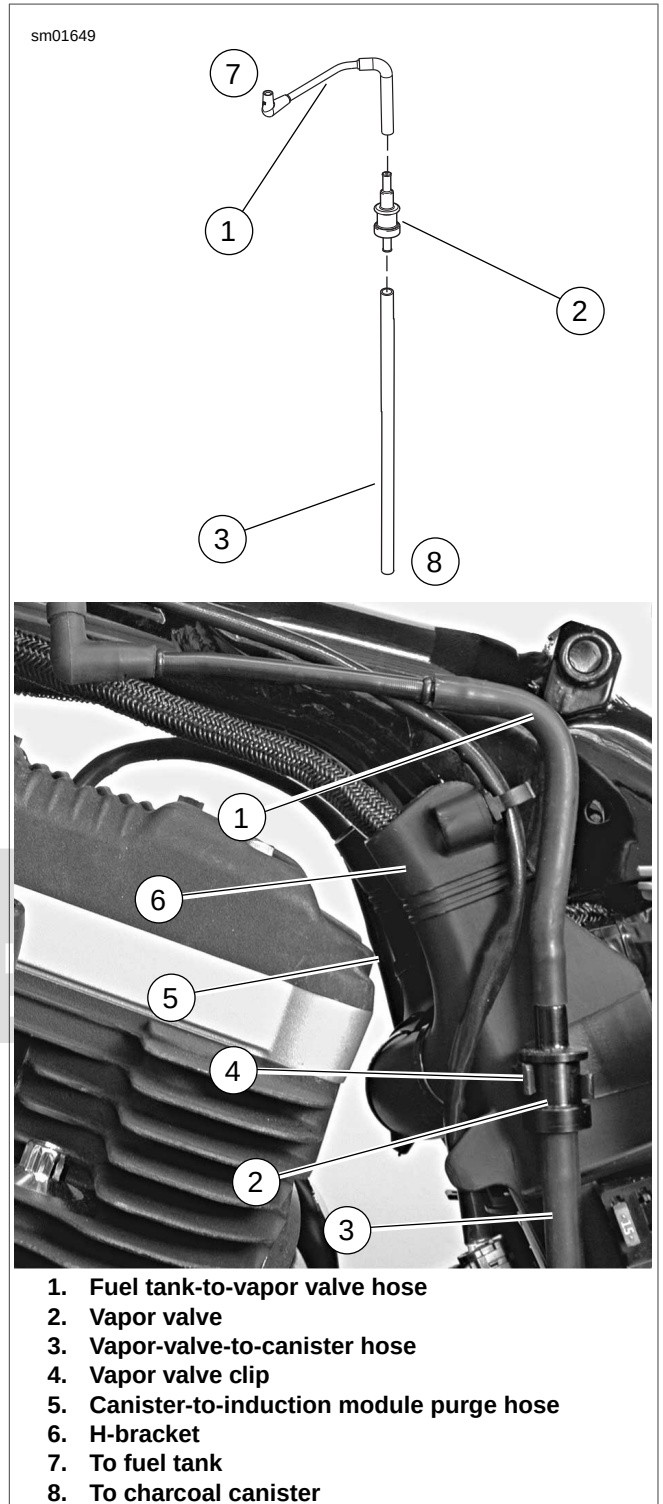
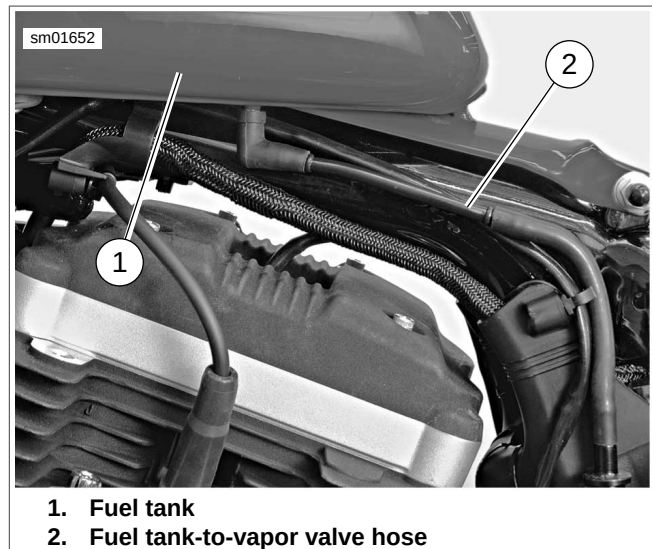

Figure 4-93. Vapor Valve and Hose Routing: XL California Models
Figure 4-95. Fuel Tank-to-Vapor Valve Hose Routing
2. See Figure 4-93. Carefully remove vapor valve (2) from clip (4) molded into H-bracket (6).
1. See Figure 4-93. Hold vapor valve (2) in an upright position with the long necked end pointing up. Insert top fitting of vapor valve into fuel tank-to-vapor valve hose (1). Install bottom vapor valve fitting into vapor valve-to-canister hose (3).
2. Carefully push body of vapor valve into clip (4) molded into H-bracket (6).
1. See Figure 4-93. Connect vapor valve-to-canister hose (3) and canister-to-induction module purge hose (5) to labeled fittings on left side of charcoal canister.
3. Connect vapor valve-to-canister hose to bottom of vapor valve (2).
4. Connect fuel tank-to-vapor valve hose (1) at top of vapor valve.
5. See Figure 4-95. Route fuel tank-to-vapor valve hose (2) forward along left side of frame backbone and connect to fitting on bottom of fuel tank (1).